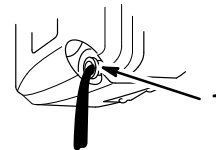

Figure 11
- Remove the dipstick and tip the mower on the left side, draining the oil out the oil fill tube into an appropriate container (Fig. 11).